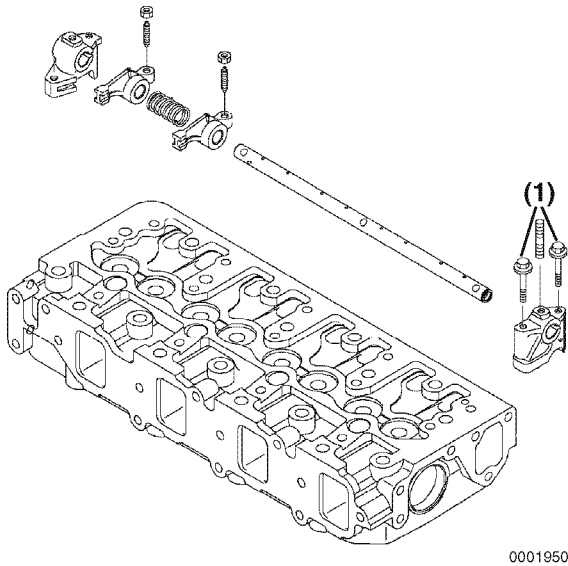

Figure 6-8
1. Remove the bolts (Figure 6-8, (1)) that retain the rocker arm shaft supports.